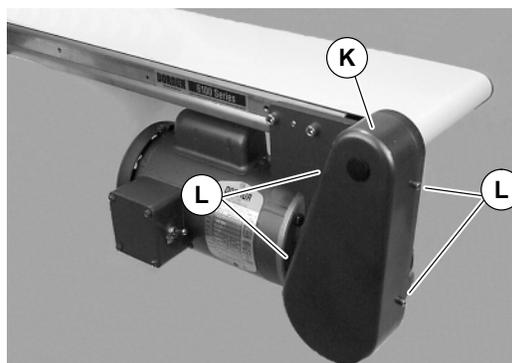

Figure 11
9. Install cover (K of Figure 11) with four (4) screws (L). Tighten to 35 in-lb (4 Nm).
1. Remove four (4) screws (L of Figure 11) and remove cover (K).
4. Install cover (K of Figure 11) with four (4) screws (L). Tighten to 35 in-lb (4 Nm).
6. Install cover (K of Figure 11) with four (4) screws (L). Tighten to 35 in-lb (4 Nm).